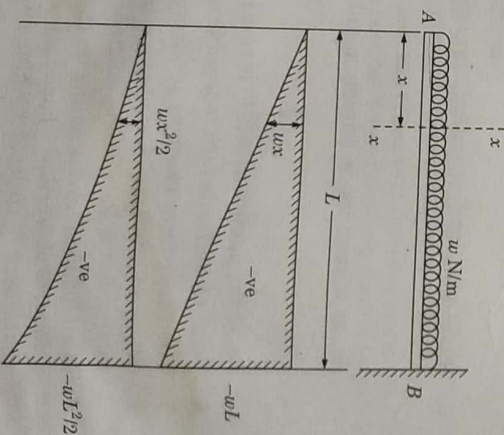

Fig. 25.16
**Example 25.2.** Draw the shear force and bending moment diagrams for a cantilever beam loaded as shown in Fig. 25.16.
The variation of S.F. is shown as in Fig. 25.16.
B.M. diagram is quadratic or parabolic curve as shown in Fig. 25.16.